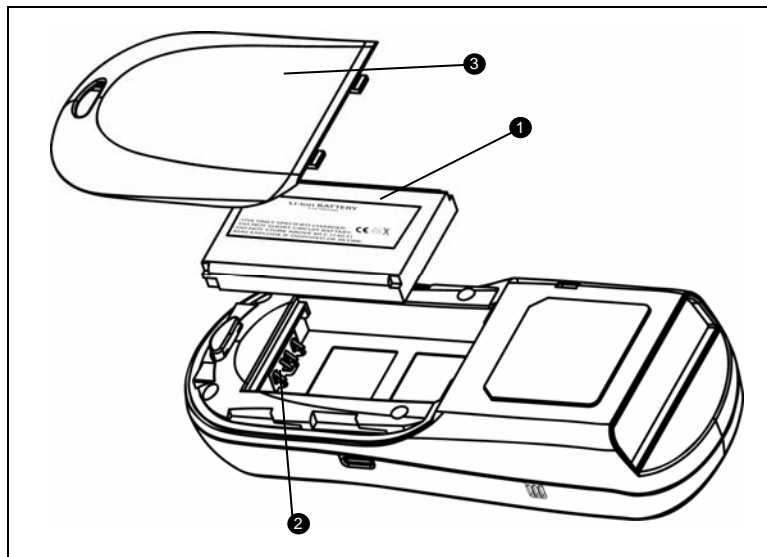

Figure 7 Battery Compartment Features
1. Access the battery compartment by removing the battery cover (See Figure 7). To remove the cover, press the cover release down and slide the cover away from the unit.